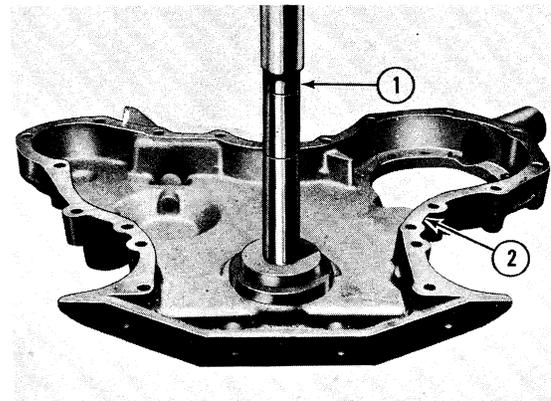

Figure 23
2. **FRONT COVER:** Install the dust seal, lubricate the oil seal and press into position using tool No. 630-16, Figure 23.